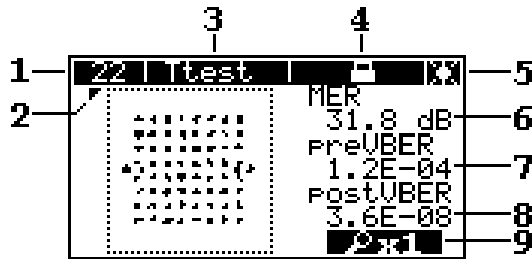
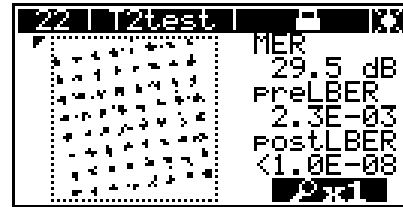

Figure 4.5.12
Figure 4.5.13
**CONSTELLATION** measurement mode can be accessed from **MER/BER** mode by pressing the **F1** key. In this mode you will see the constellation diagram of DVB-T or DVB-T2 channels and also the basic reception quality parameters. The screen view is shown in Figure 4.5.12 (for DVB-T channels) and Figure 4.5.13 (for DVB-T2 channels):
To enlarge the displayed diagram, press the **F3** key. The screen will zoom in the selected diagram quadrant. Press **F3** once more to return to previous diagram scale. Use the **▲**, **▼**, **◀** and **▶** keys to select the diagram quadrant for zooming. The selected quadrant will be indicated by the marker in its corner (position 2 in Figure 4.5.12).